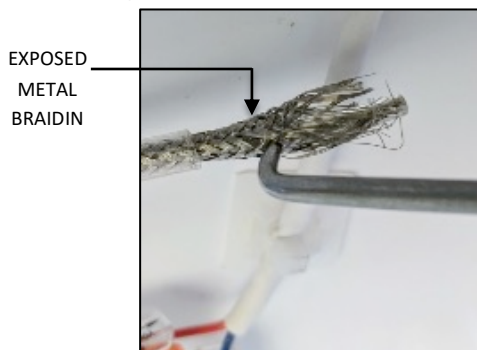
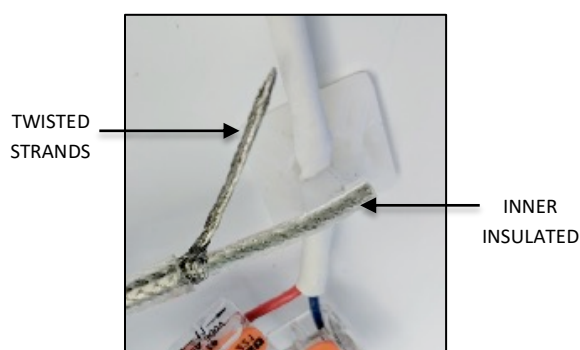

FIG. 23
FIG. 24
2. Using a small pointed object, begin unweaving the exposed metal braiding as shown in FIG. 23 below. Position the unwoven metal strands on one side of the inner insulated wire and twist the individual strands together as shown in FIG. 24 below.